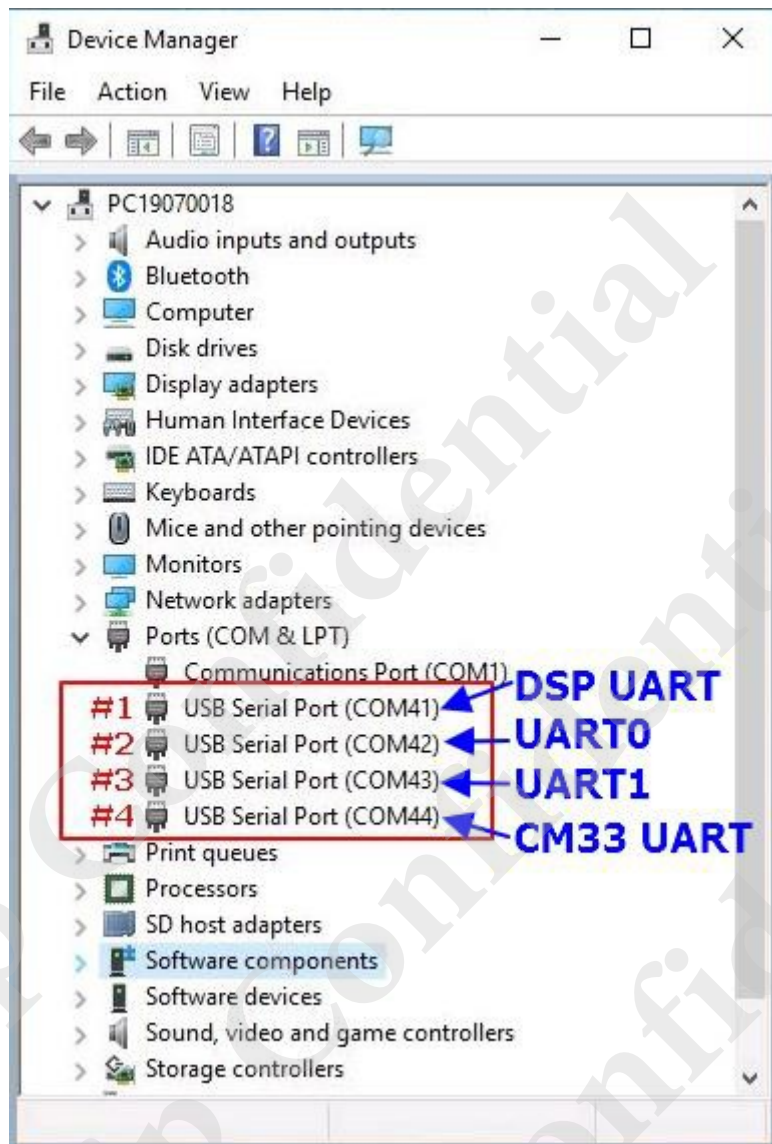

Figure 3. COM port associated with the EK-AI7931HD
- 6) In Device Manager, navigate to Ports (COM & LPT) (see Figure 3).
- 7) A new COM device should appear under Ports (COM & LPT) in Device Manager, as shown in Figure 3. Note the COMx port number of the serial communication port, this information is needed to send command and receive logs from the COM port.
Due to the com port numbers (COMx) are different at different PC. In order to check the function of each com port we can recognize the order of these com ports as Figure 3 showed, the first com port (#1) means “DSP UART”, the second com port (#2) mean “UART0”, the third com port (#3) mean “UART1”, the fourth com port (#4) mean “CM33 UART”.